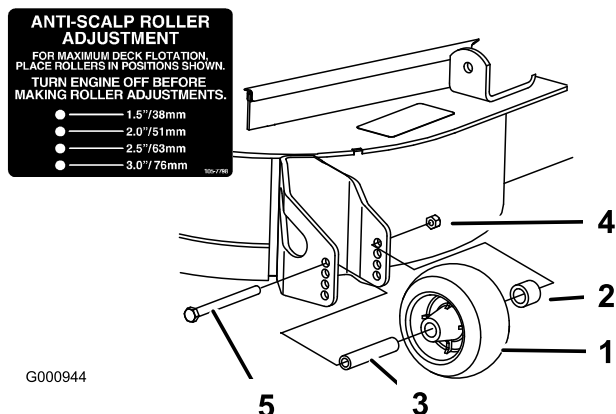

Figure 14
1. After adjusting the height-of-cut, adjust the rollers by removing the flange nut, bushing, spacer, and bolt (Figure 14).
3. Install the flange nut, bushing, spacer, and bolt. Torque to 40-45 ft-lb (54-61 N-m) (Figure 14).